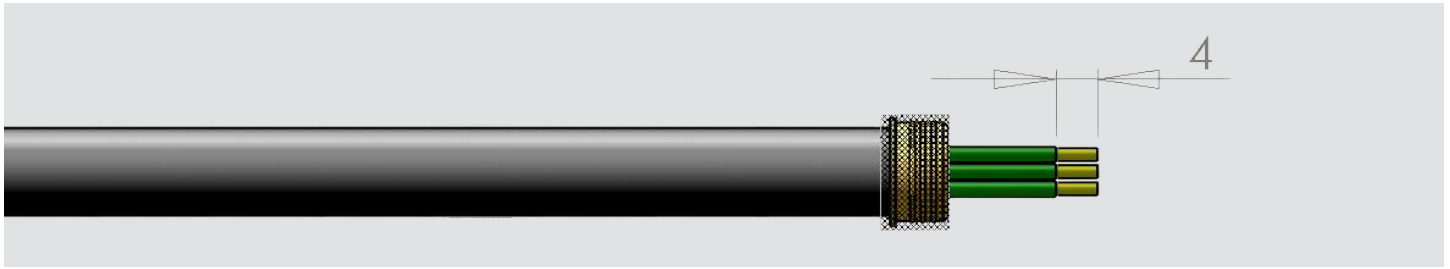

Figure 5
- Strip the insulation of the individual wire by 4mm as shown in Figure 5